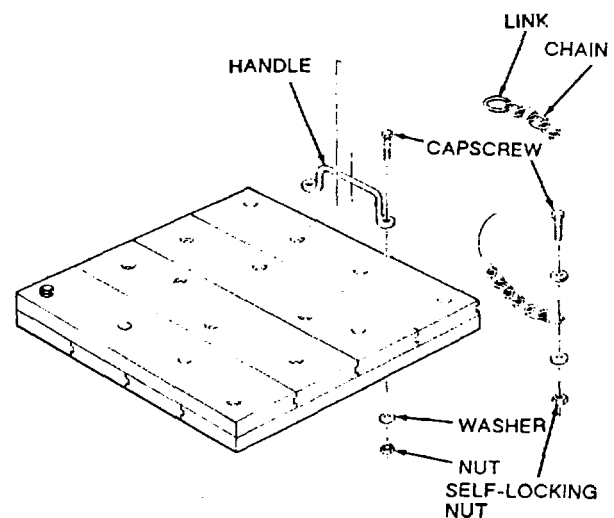

Figure 4-63. Ground Board Assembly.
(1) Position leg assembly onto semitrailer frame. Attach with eight capscrows, washers, and nuts
(2) Position gearbox assembly and coupling or landing gear leg. Install two mounting capscrows, washers, and nuts.
(3) Fasten coupling to operating shaft with capscrow, washer, and nut.
(4) Attach brace to leg assembly with capscrow, lockwasher, and nut.
(5) Attach rod coupling to leg assembly with a capscrow, lockwasher, and nut.
(6) Install shoe on leg assembly (para b).
**4-56. Board Assembly, Landing Gear, Fig. 4-63.**